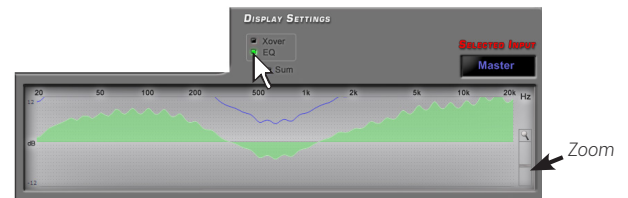

Fig.2
2. a green area for the electrical response under equalization (EQ) (Fig.2) by clicking with the mouse on the **EQ** box;